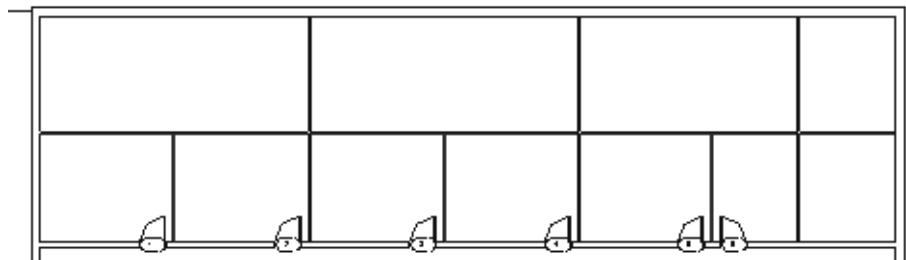

Figure 2-76
- Select every other wall **BELOW** the new wall. (Remember, you select the elements that you want to keep.) The walls should display as shown in Figure 2-76.